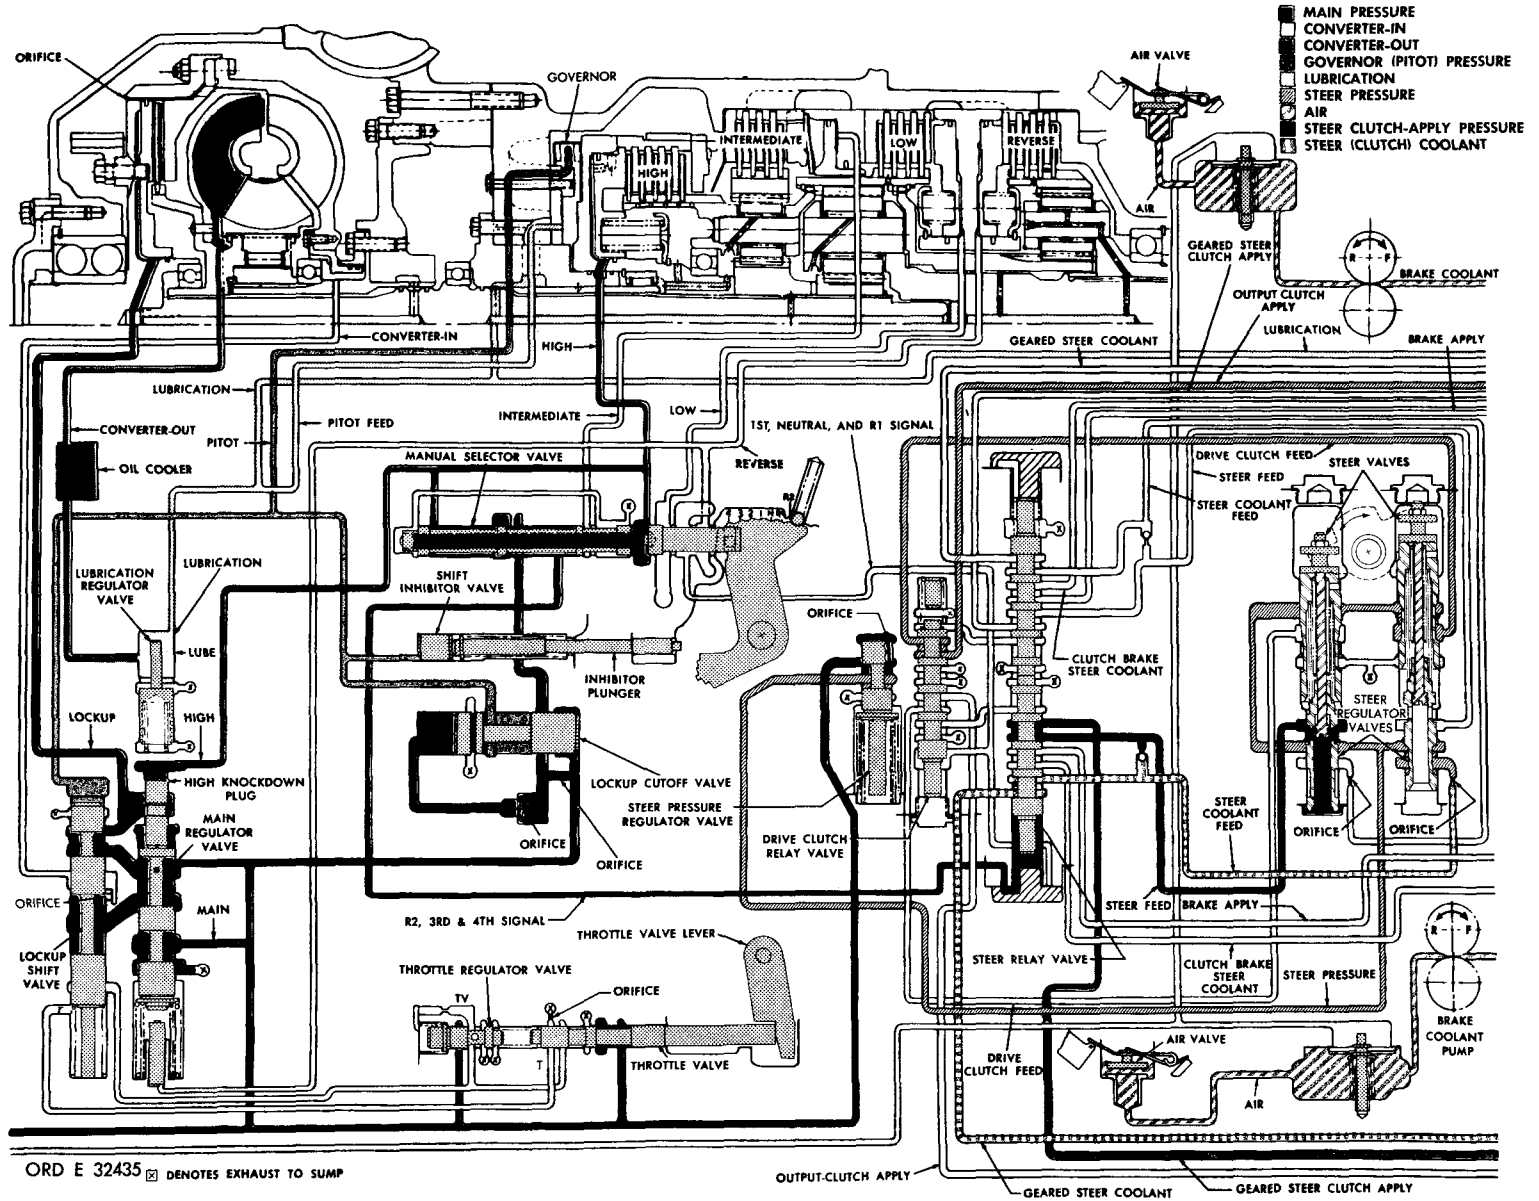

Figure 16. Hydraulic system, fourth gear, left steer — schematic view
(5) The right-gear-ed steer clutch is ex-hausted, after use, through the ball check valve (upper) located between the steer feed and steer coolant feed lines.
(6) In right steer in third gear, the right-drive clutch (output clutch) is released, the right-gear-ed steer clutch is engaged and supplied with coolant, and the left-drive clutch (output clutch) is engaged and continues to drive.
b. Fourth Gear, Full-left Steer (fig. 16)